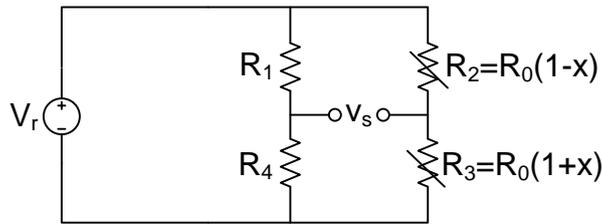

Figure 2: Bridge circuit with two strain gauges.
The two strain gauges and the two fixed resistors are connected in a bridge circuit with a voltage supply  $V_r$ . The electrical equivalent circuit of this sensor is shown in Figure 2.
- (3p) (a) The sensor circuit in Figure 2 contains two active strain gauges. You can also design a pressure sensor with only one strain gauge and three fixed resistors. Mention at least one advantage of the circuit shown in Figure 2 compared to a solution with only one active strain gauge.
- (6p) (c) What value should the voltage supply  $V_r$  have to maximize the sensitivity of the sensor circuit shown in Figure 2 for a change in  $x$ ?
- (6p) (e) Show that the output voltage  $v_s$  of the sensor circuit shown in Figure 2 is equal to  $-1.13$  mV when a pressure of  $100 \cdot 10^6$  N/m2 is applied to the metal strip and  $V_r = 3$  V. (Note: You may ignore the error to the thermal dependency of the resistors  $R_2$  and  $R_3$  in this questions.)